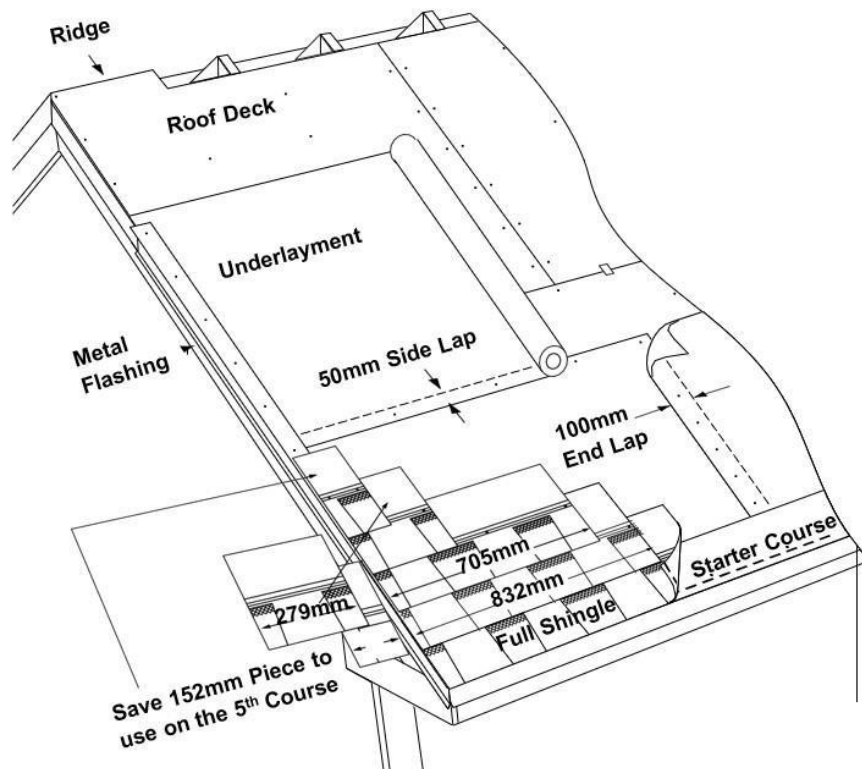

Figure 2
To best ensure adequate ventilation, use a combination of continuous ridge ventilation, incorporating an external baffle, and balanced drip edge ventilation. At the gable ridge, leave a minimum 150mm substrate unvented. See Figure 2.
1. Use CertainTeed Swiftstart® Starter, or three-tab self-sealing shingles with the lower tab portions removed. Be sure that the starter shingles are at least 194mm in height. (Figure 2).
The recommended application method is the Five Course, Diagonal Method (Metric) found on each bundle of shingles, see figure 2. In this method, shingle course offsets as displayed below. These shingles may be used for new construction or for re-roofing over old metric-sized shingles. (Special conditions apply)